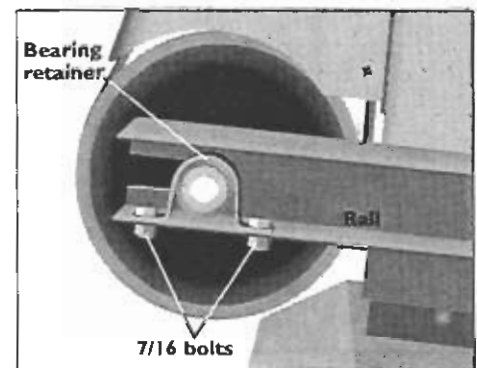

Figure 20
9. Use a 7/16-inch socket and a 7/16-inch wrench to remove the four bearing retainer bolts (Figure 20).